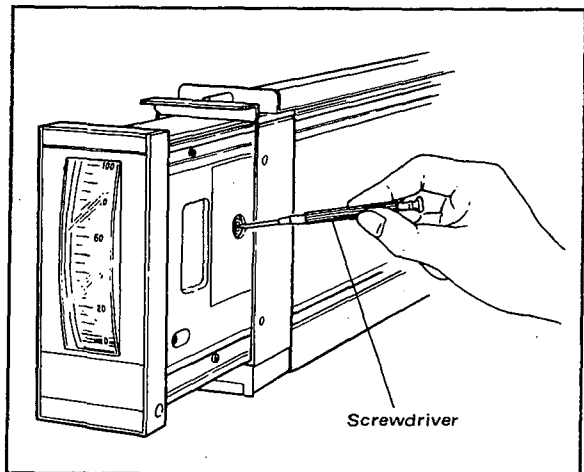

Figure 6-2. Zero Adjustment.
- (1) Apply 1 V, 2 V, 3 V, 4 V and 5 V DC signals from a DC voltage/current standard across input terminals 1 (+) and 2 (-).
- (2) Check that the pointer (red) indicates the 0%, 25%, 50%, 75% and 100% positions on the scale that corresponds respectively to these input signals.
- (3) If the pointer indication is not accurate within $\pm 1.0\%$ (of span) at all points, set the input signal to 3 V DC.
- (4) Turn the zero adjustment until the pointer exactly indicates the 50% position of the scale. (Figure 6-2.)
- (5) Repeat steps (1) to (4), to insure that the indicating accuracy at each voltage position is within $\pm 1.0\%$ of span.